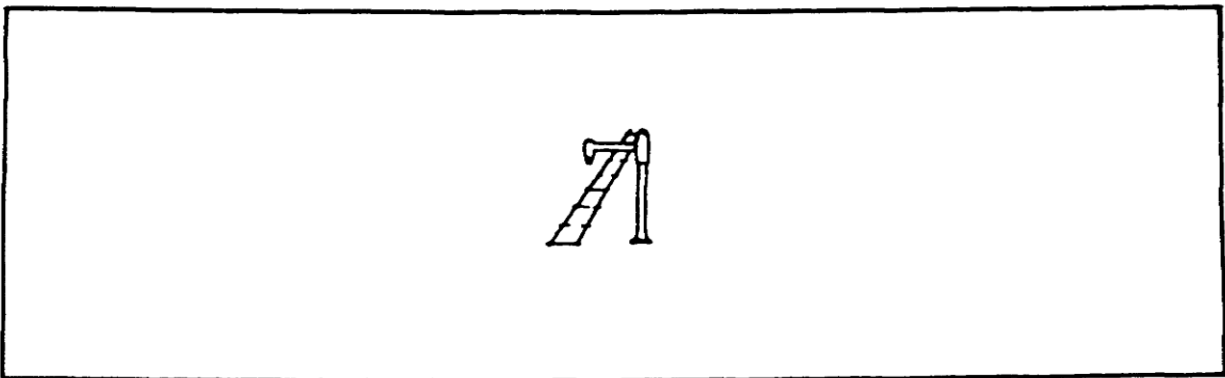

Figure 1-18. Standpipe with Spout.
5. Water towers are found where steam locomotives are used and are located next to the tracks. There are three basic types of water towers. The first is a large water tower with a spout that feeds water into the tenders by gravity. Second is the large standpipe with a spout that feeds water into the tender by a pressure system. Third is the hydrant type, which is used with the water being fed into the locomotive and tender by a large hose (Figure 1-18).